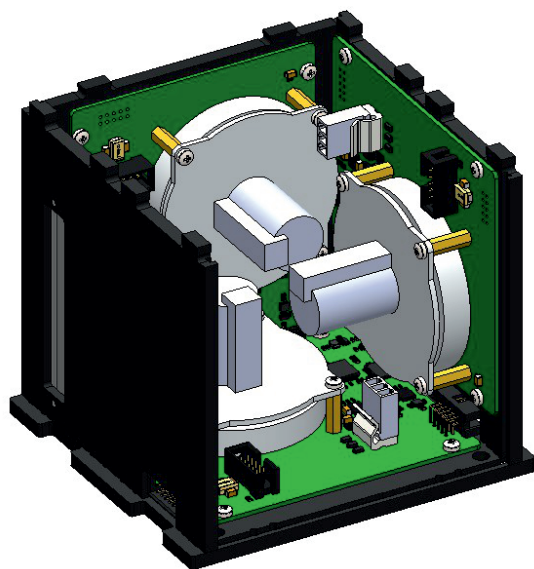

Fig. 61: Mounting the side wall on the base plate
7) Mount the side wall on the base plate. To do that, align side wall protrusions with holes in the base plate and latch them. Connect the three boards with reaction wheels using a ribbon cable (Fig. 61):